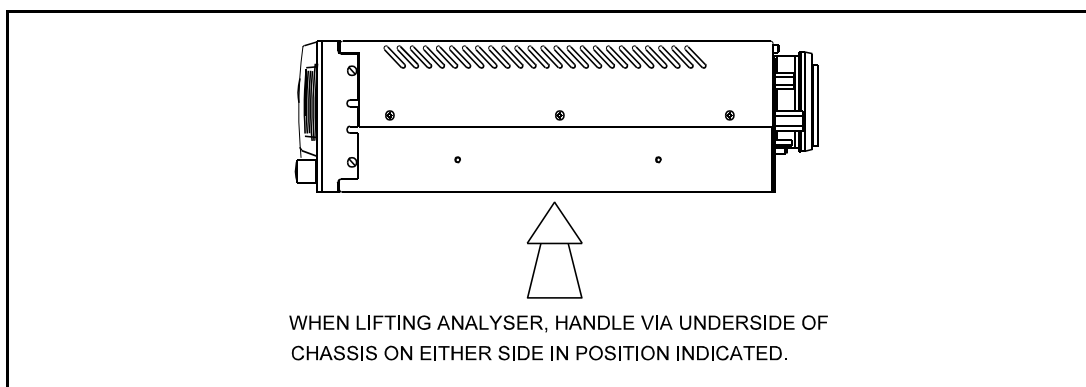
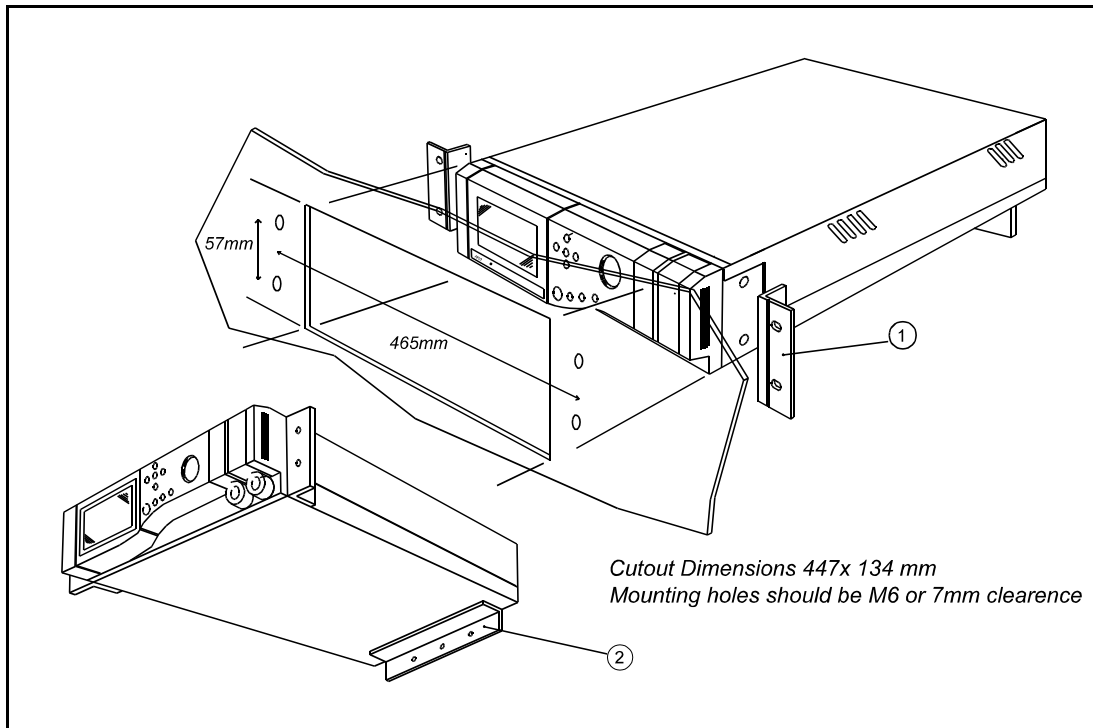

Figure 2.1 Recommended handling
Figure 2.2 Panel mounting detail.
The weight of the **xentra** (nominally 20 Kg) will vary according to configuration. The rack mounting brackets (See Figure 2.2 item 1) are not designed to be used as handles or grips. When removing the instrument from its packing, and for subsequent handling, ensure that the analyser is gripped securely underneath in the positions indicated in Figure 2.1). Lift and remove the **xentra** from its packing and inspect for any damage incurred during transit. If damage has occurred, inform Servomex or its agent immediately. Retain all packing and shipping information. The shipping carton may be used for future transportation.
See Figure 2.2 for panel mounting detail. In panel mounting format the **xentra** 4900 is supplied with a pair of mounting brackets (item 1 on figure 2.2) suitable for mounting the front of the instrument against a panel. These brackets are not intended to provide the sole means of support for the analyser. The user must provide additional means of support at the rear of the instrument (item 2 on figure 2.2).